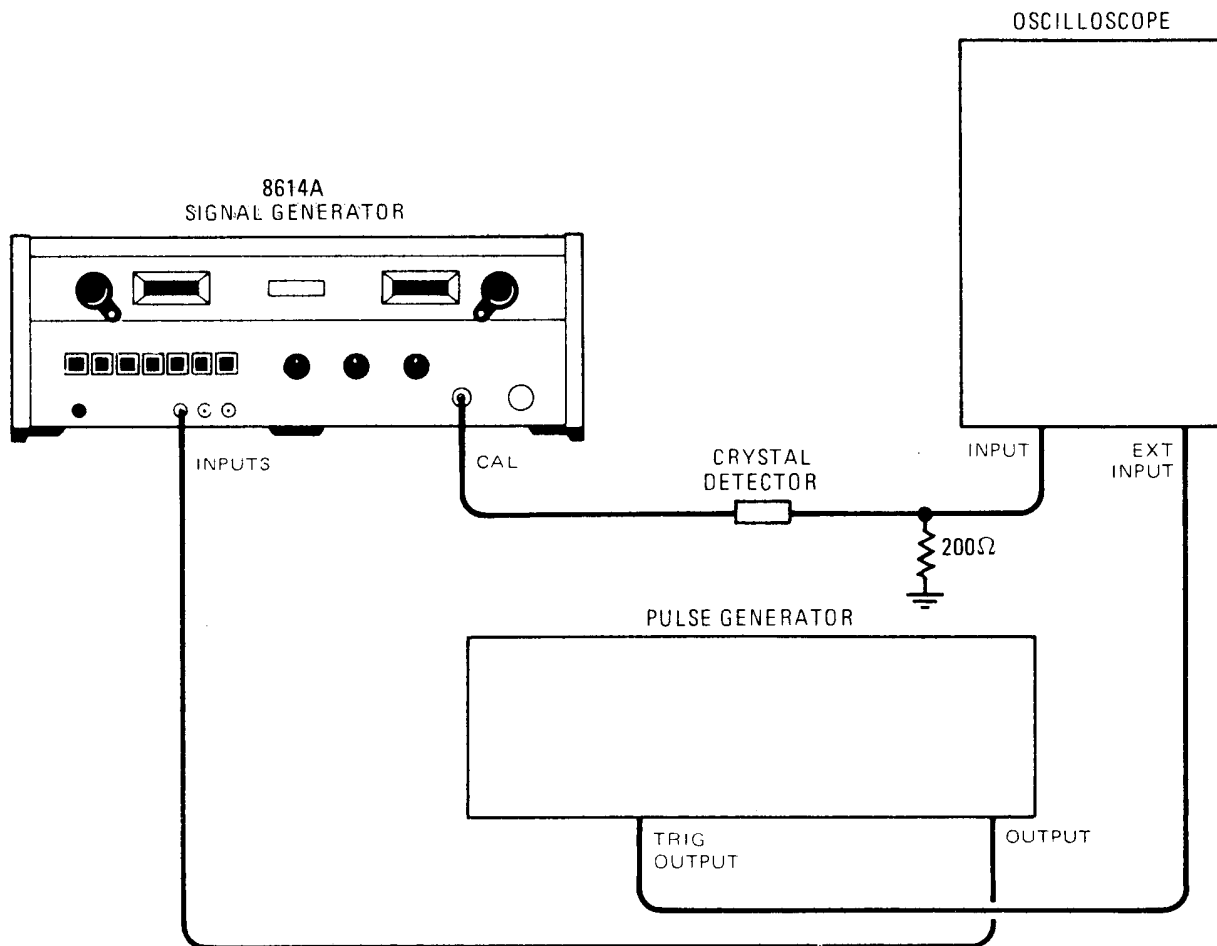
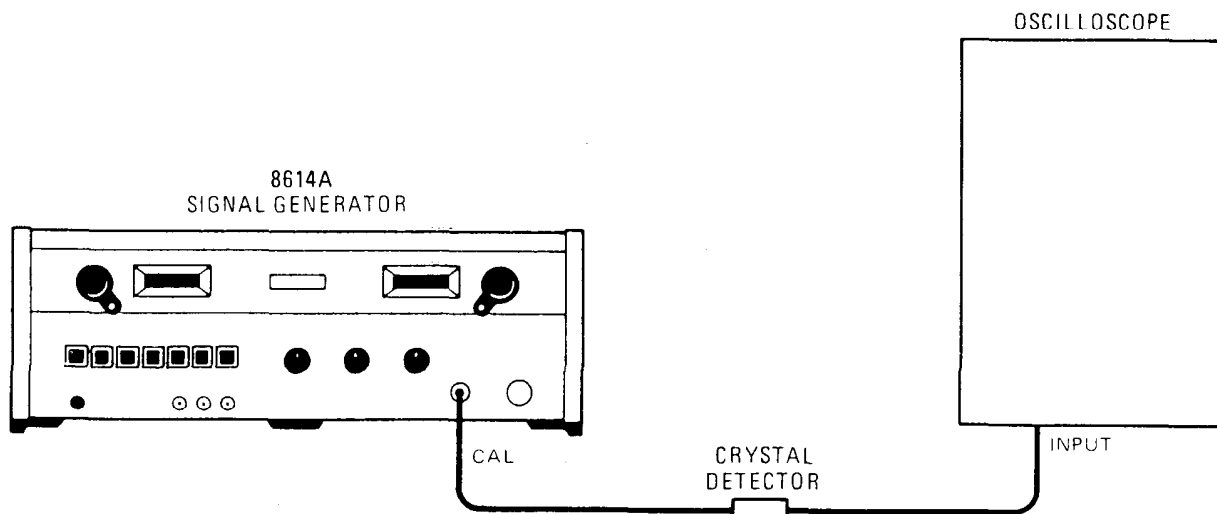

Figure 5-2. External Pulse Check
Figure 5-3. Internal Square-Wave Check
- a. Connect instruments as shown in Figure 5-2.
- a. Connect instruments as shown in Figure 5-3 (see Note, paragraph 5-14, step a).
- ATTENUATION (DB) 0 DB
e. To check external synchronization, connect equipment as shown in Figure 5-2.